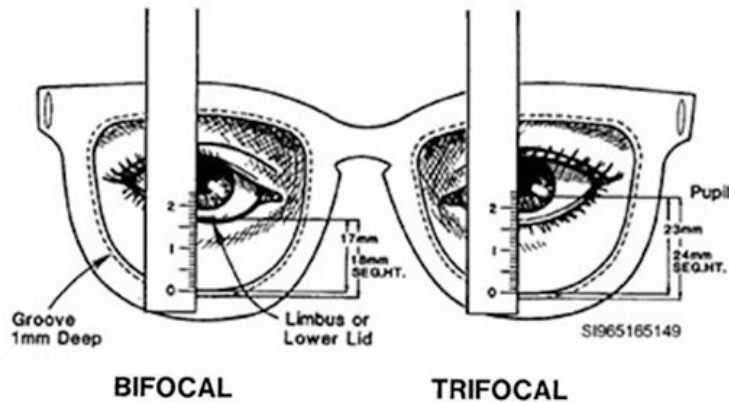

Figure 2-70. Measuring bifocal and trifocal segment heights.
To measure for a bifocal height, measure from the top edge of the lower eyewire to the lower limbus of the patient (fig. 2-70). If the lower lid covers the lower limbus, measure to the top edge of the lower lid. Whatever reading you get, add 1 mm to it so you'll account for the depth of the eyewire groove in the frame. For instance, if you get a reading of 17 mm, then add 1 mm to account for the groove. Your final bifocal height measurements are 18 mm, and this is what you order.
To measure for a trifocal segment height, measure from the top edge of the lower eyewire to the bottom edge of the patient's pupil. Again, add 1 mm to your measurement to account for the depth of the eyewire groove in the frame (fig. 2-70).
- Cut the eye in half with the ruler, so to speak, so you know you are measuring right through the middle of the eye. This gives the most accurate reading (fig. 2-70).